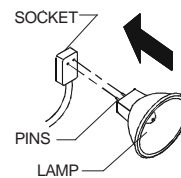

FIG.6
1. **MR16 (12V GU5.3) LO-VO:** Insert the pins of the lamp base into the socket. (Fig.6)